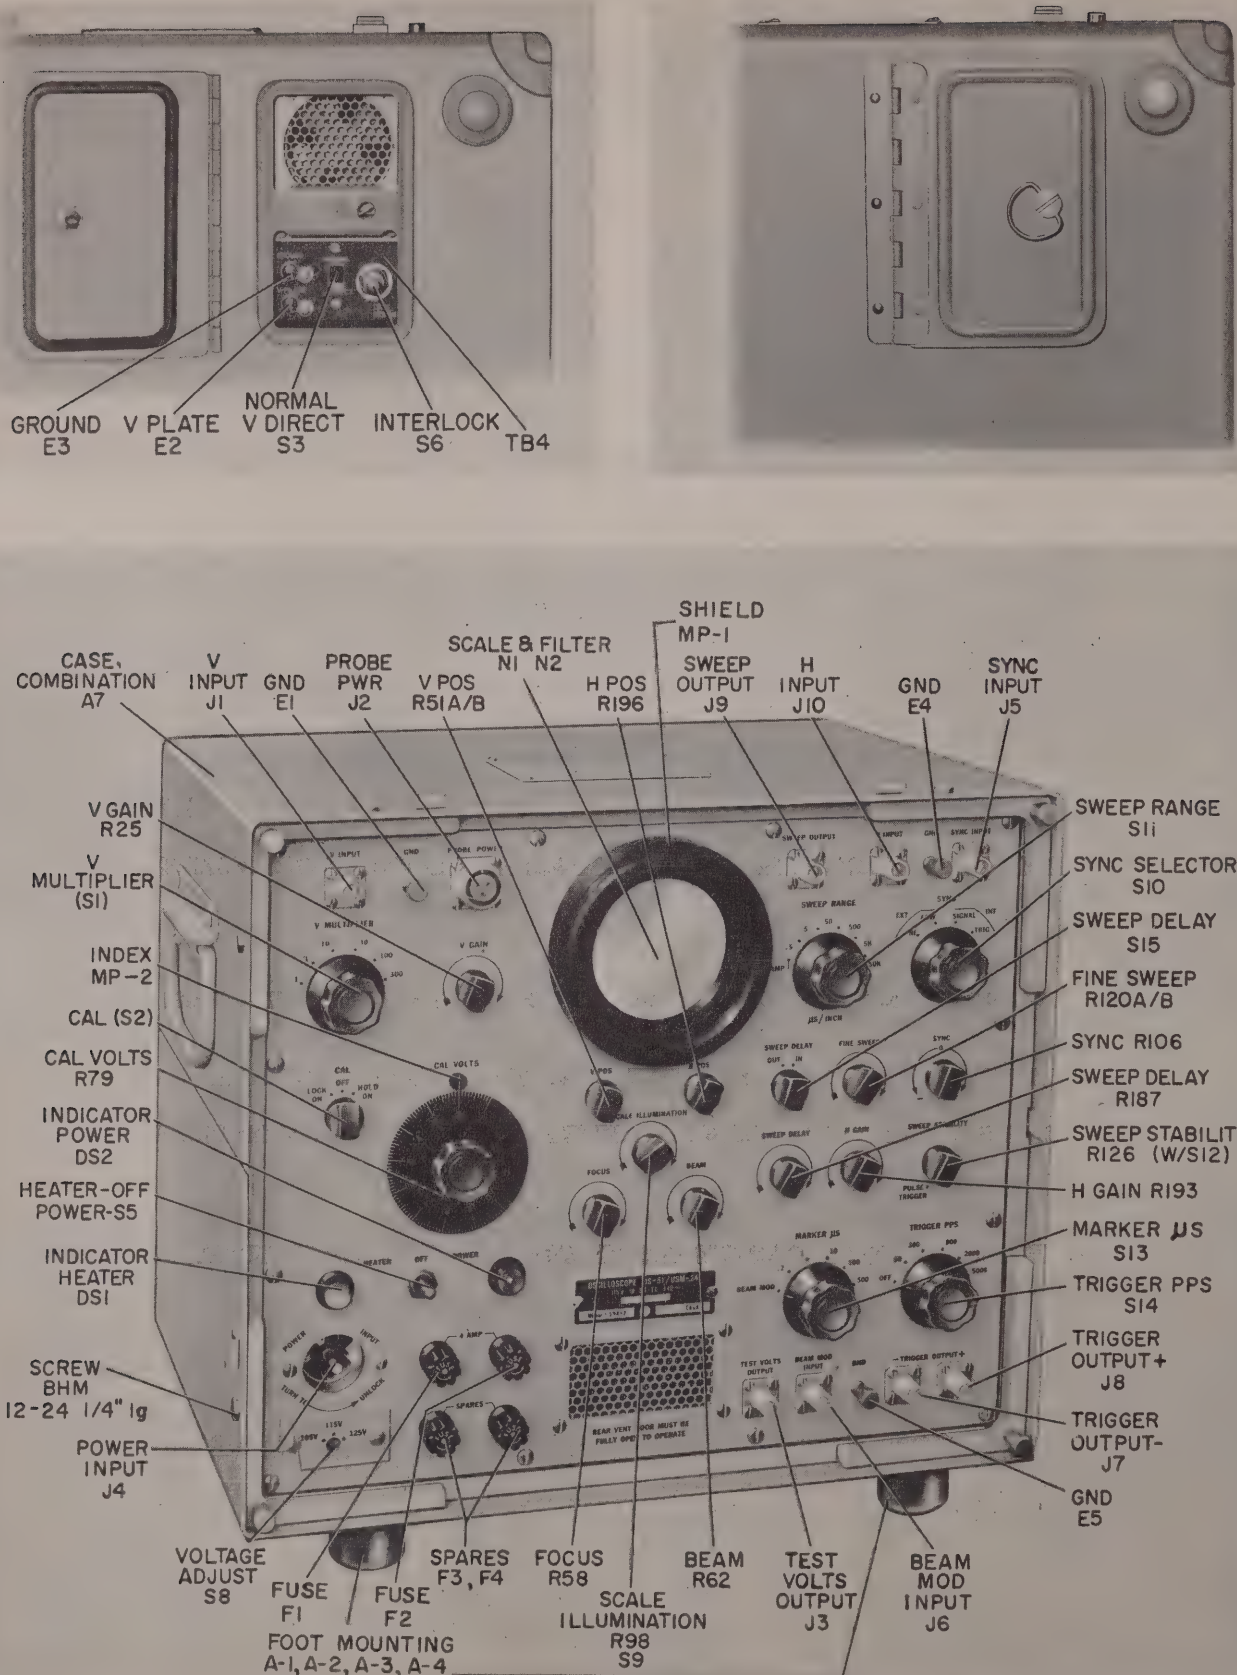

Figure 4-1. Front and Rear View of Oscilloscope OS-51/USM-24C Showing Controls and Connectors
b. Two interlocks are provided for equipment and personnel safety. S6, figure 4-1 and 7-21 is a normally closed spring-return switch that is actuated by the rear ventilation door to open the contacts when the door is closed. Thus, it prevents line voltage from being applied unless the ventilation door is open. S7, figure 7-21 and 7-28 is a safety interlock, normally open contact switch that is held in the closed position as shown, by the case of the oscilloscope. It prevents line voltage from being applied in order that no hazardous voltages will exist when the oscilloscope OS-51/USM-24C is removed from its combination case.
i. S8, figure 4-1 and 7-19 is a three position screw-driver slotted switch. It is provided so that the oscilloscope can be used under normal, high or low line voltage conditions. It is on the front panel under a transparent cover, which is interlocked with the power connector plug to prevent switching while the power is ON.
j. S5, figure 4-1 is a three position toggle switch. In center position, power is "OFF"; switched to the right side, power is "ON" for the oscilloscope; and to the left side, energizes a heater HR1, for use when the oscilloscope is not being used and humidity conditions are high.